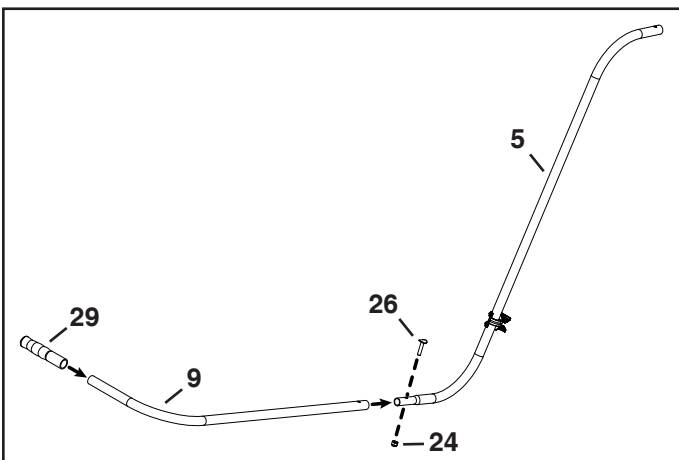

FIGURE 15
24. Slide the handle grip (29) onto the end of the handle tube (9) as shown in figure 15.
25. Assemble the handle tube (9) to the dump tube (5) and secure in place with a 1/4" x 1" curved head bolt (26) and 1/4" nylock nut (24).